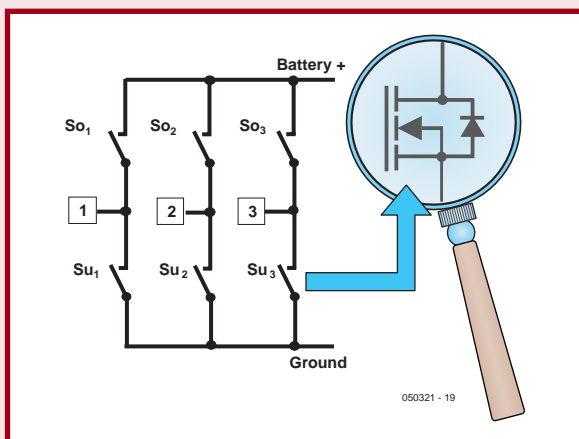
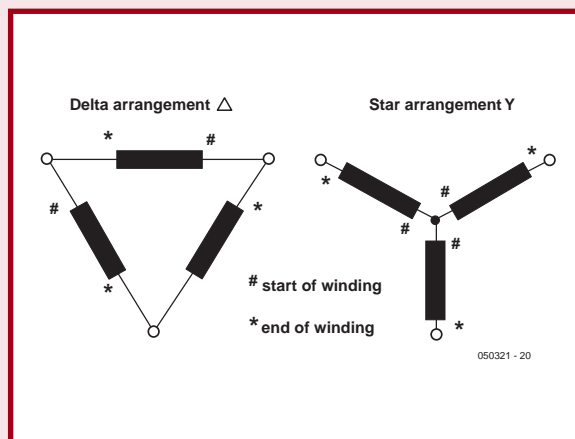

Figure 15. Simplified three-phase bridge drive circuit. The control electronics ensures that two switches in the same column are never on simultaneously.
Figure 16. The motor windings can be wired in a star or delta arrangement.
In brushless (BL) motors electronic circuits in the form of bridges constructed from power FETs are used (**Figure 15**). To be able to start the motor up and keep it running, at least three half bridges are required. The three outputs go to the motor windings, which can be arranged in a delta or in a star configuration (**Figure 16**).